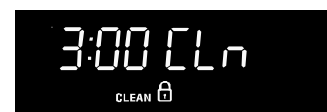

Fig. 1
2. Press . "**CLEAN**" will flash, "**3:00**" (hours) and the Cooktop locked icon will show in the display (See Fig. 1). Note: 2 hours of Self-Cleaning time may be chosen by pressing  or 4 hours by pressing the  at this time.